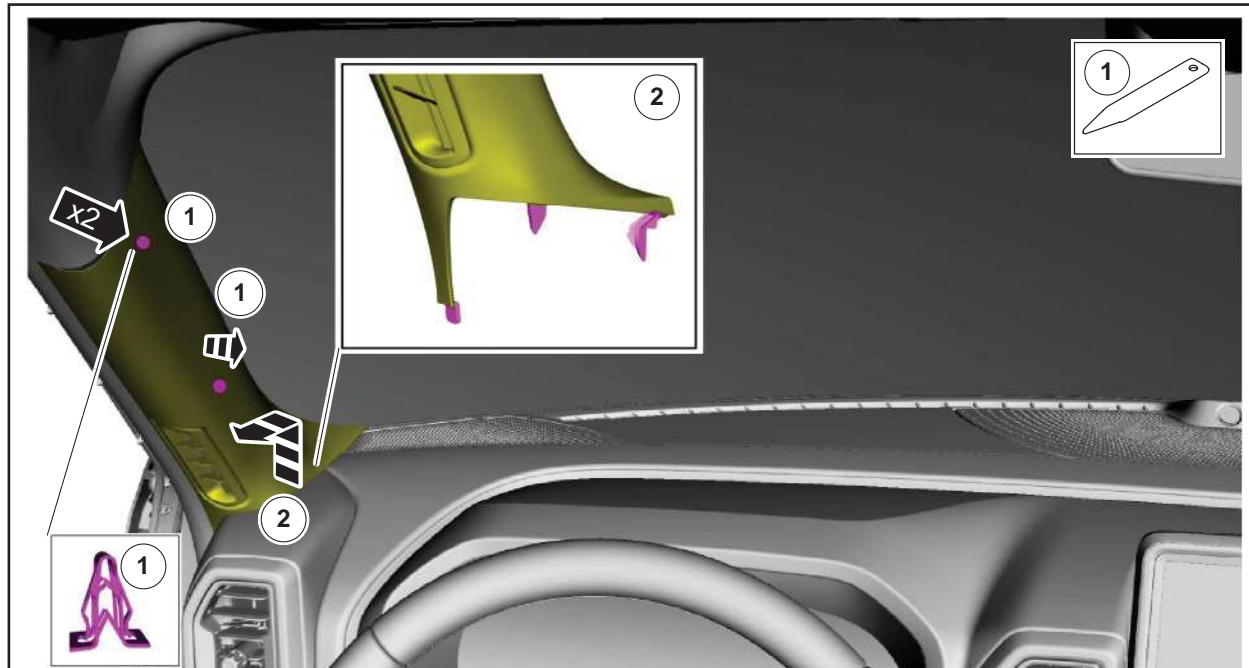

FIGURE 2
2. Position aside the left hand (LH) side A-pillar trim panel. See Figure 2.